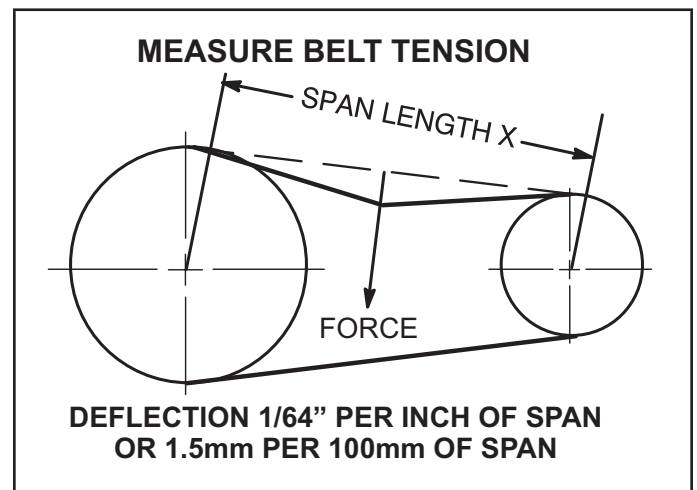

FIGURE 16
- 1 - Measure span length X. See FIGURE 16.
- 2 - Apply perpendicular force to center of span (X) with enough pressure to deflect belt $1/64$ " for every inch of span length or 1.5mm per 100mm of span length.